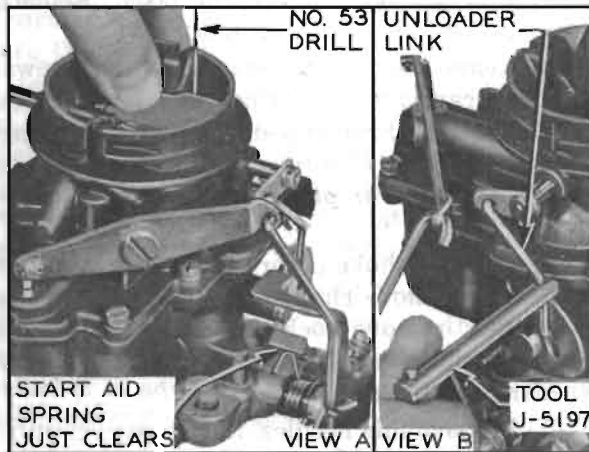

Figure 3-68—Start Aid Adjustment
7. Reinstall throttle stop screw and spring. Hold choke valve closed on a No. 53 drill (.060"). As throttle valve is opened, start aid spring should just clear tang on choke unloader plate. Bend unloader link to obtain proper setting using Tool J-5197. See figure 3-68.